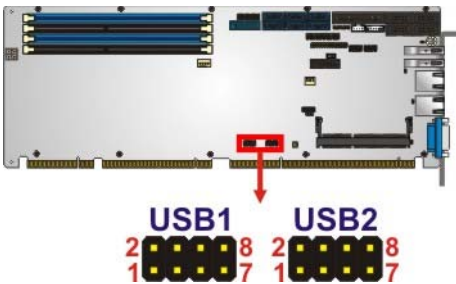

Figure 3-26: USB 2.0 Connector Pinout Locations
- CN Location: See Figure 3-26